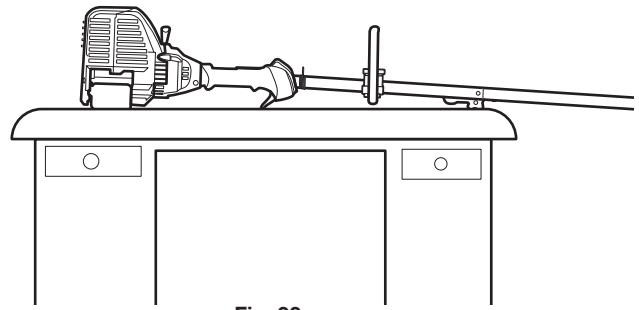

Fig. 33
2. Set the unit on a flat, level surface, such as a workbench or table. The cutting head shield should hang over the edge so that the engine is level (Fig. 33).